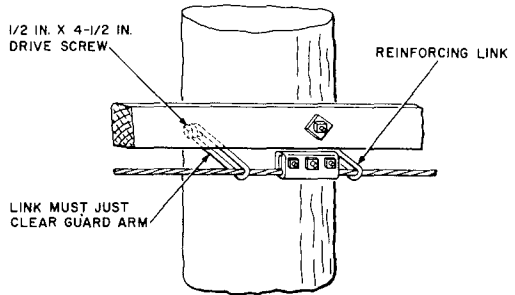

Fig. 12—Reinforcing Links Installed at Guard Arm Location
7.04 Where a guard arm is used, attach the links as far above the level of the suspension strand as the clearance between the link and the guard arm will permit. An installation of reinforcing links at guard arms is shown in Fig. 12.